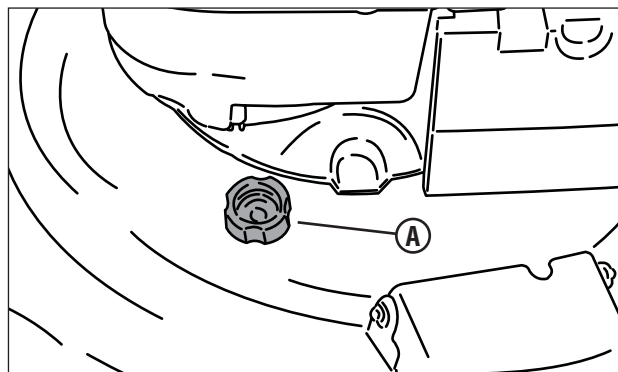

Figure 15: Washout port
5. Connect the male end of a standard garden hose to the washout port connector (**A, Figure 15**).